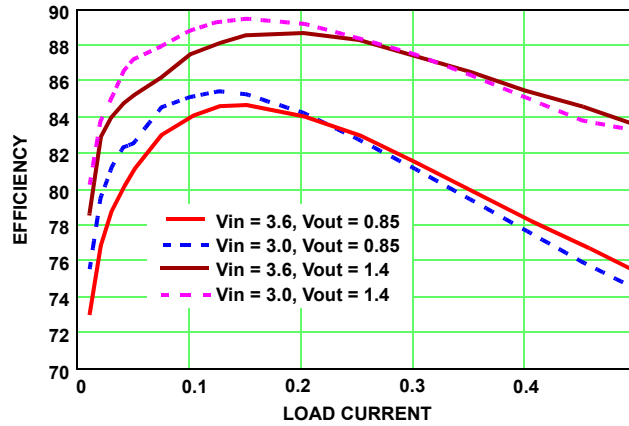

FIGURE 3. SWITCHING FREQUENCY REGULATION
Upon application of input power to the ISL6271, the power good signal (PGOOD) will switch from low to high after four conditions are met - (1) VCC exceeds the power on reset "rising threshold", (2) the EN pin is high and (3) the LDO input voltage (LVCC) is greater than 1.6V, (4) All three outputs are in regulation. Figure 3 illustrates this start-up sequence. The outputs are powered on under a soft-start regime with the core output voltage defaulting to 1.3V (unless under VID control) and the LDOs at their fixed output levels. Once the outputs are in regulation, the ISL6271 will respond to a voltage change command via the I²C bus.